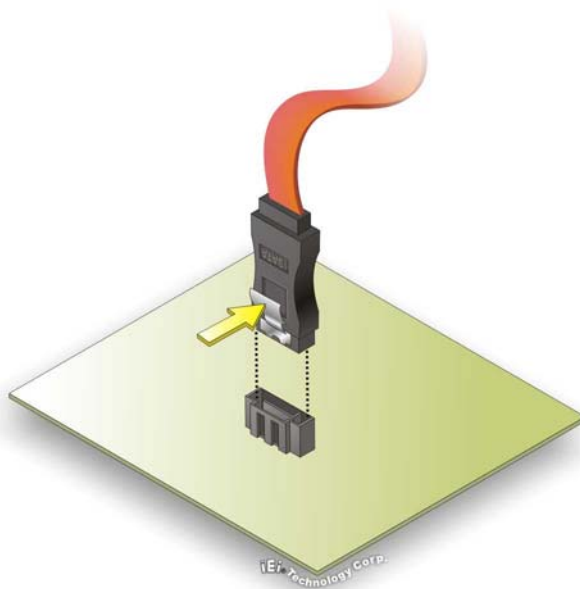

Figure 5-11: SATA Drive Cable Connection
Step 2: Insert the cable connector. Press the clip on the connector at the end of the SATA cable and insert the cable connector into the onboard SATA drive connector. See **Figure 5-11**.